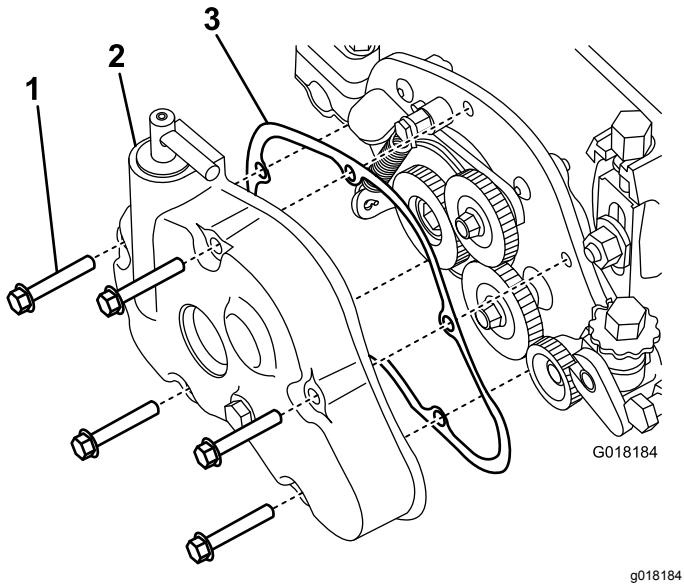

Figure 24
1. Remove the gearbox cover from the groomer housing, ensuring that the groomer gear clutch is engaged to remove spring force into the cover (Figure 24).